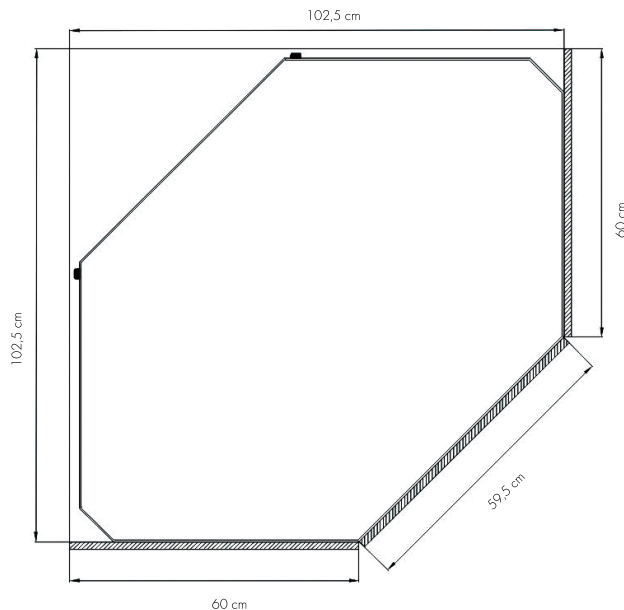

Fig 9
8.3 Integration of corner fridge cabinet (see fig 9)
8.5 Fitting furniture sides (see figure 9)